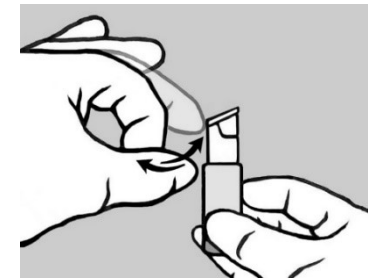

Figure 1 / Kuva 1
- Hold the vial in an upright position and tap the cap to remove liquid from the dropper tip (Figure 1).